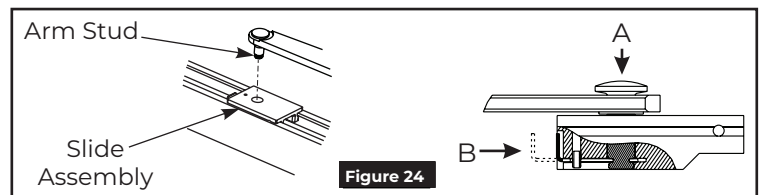

Figure 24
5. Insert stud on arm into slider in track by pressing clip on backside of slider onto stud. (Figure 24)